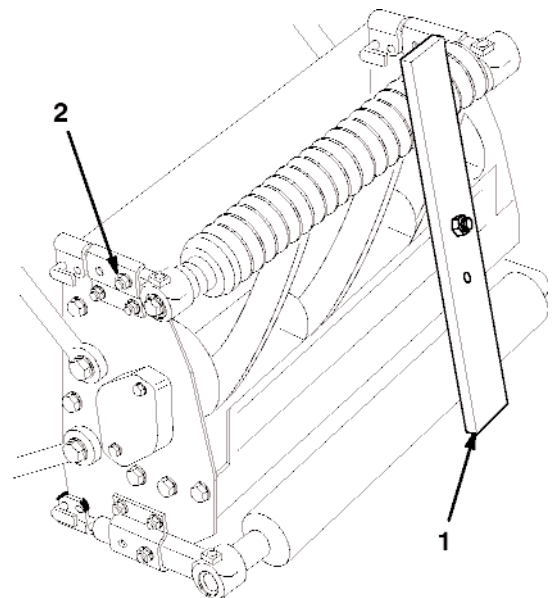

Figure 7
2. Slightly loosen the nut securing each front roller bracket to the angle bracket (Fig. 7).
4. Place the bar across the front and rear rollers and adjust the front roller support screws until the underside of the screw head engages the bedknife cutting edge (Fig. 7). Do this on both ends of reel. Make sure the rollers are free of debris and/or distortions on the roller surfaces.